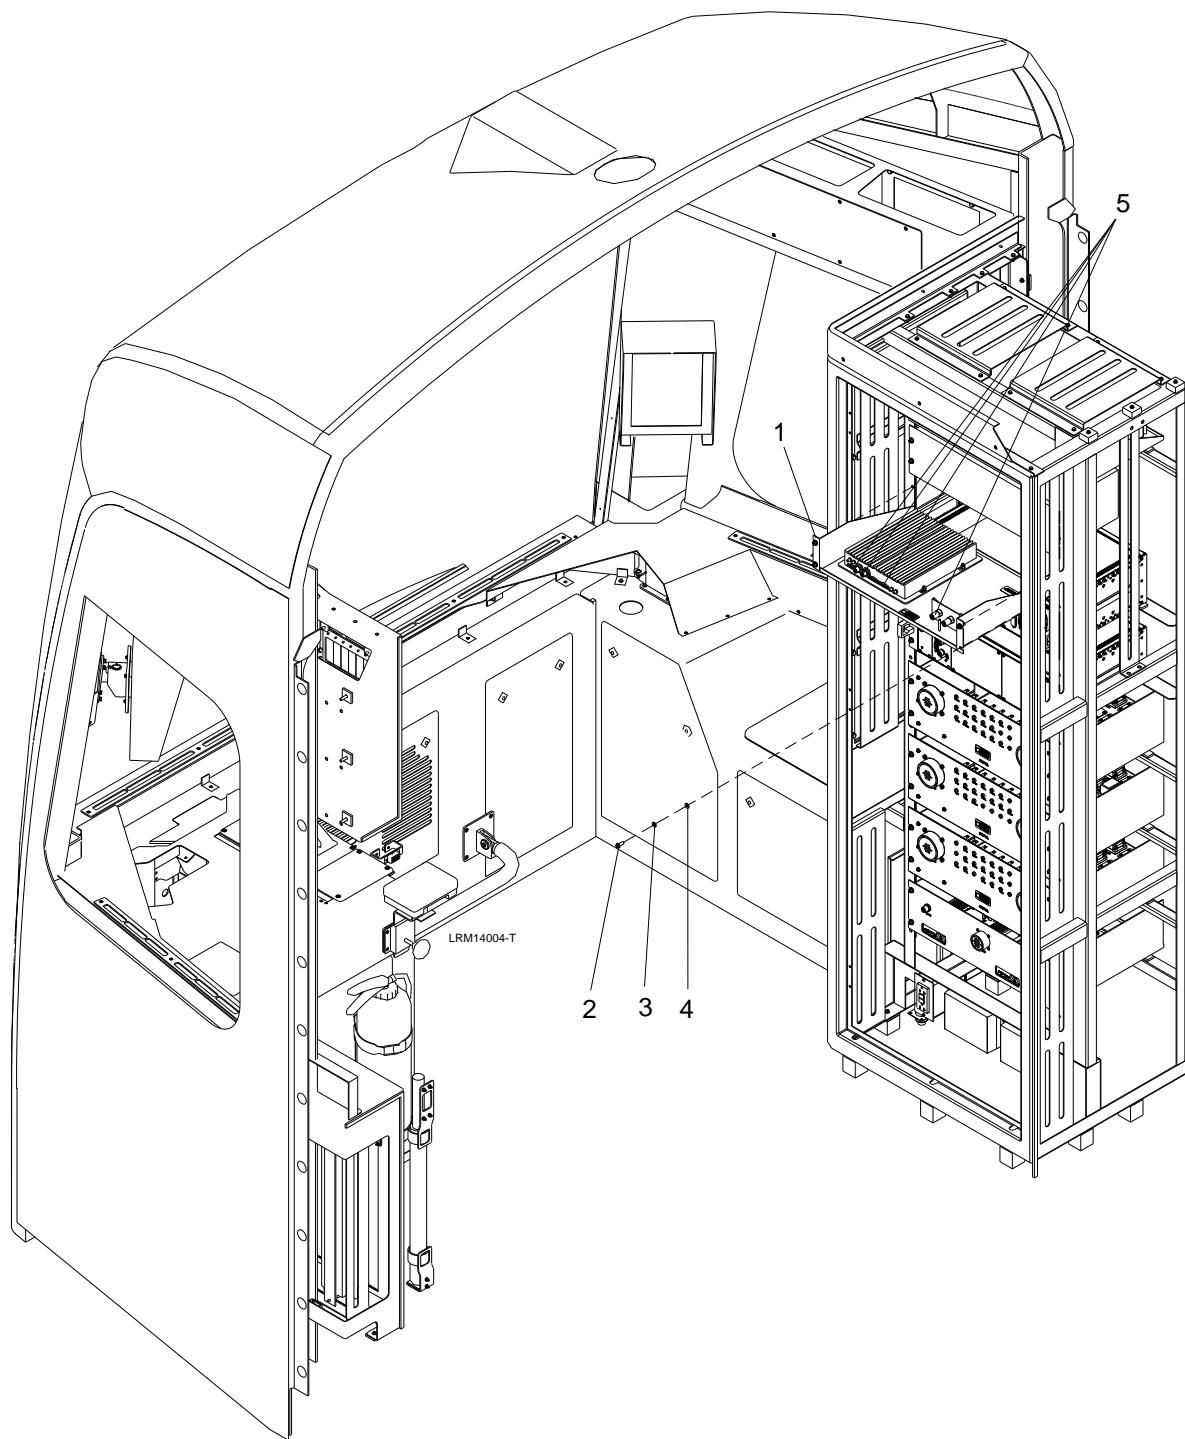

Figure 7-25: Communication Control Unit (CCU) Panel
2. Disconnect the electrical connectors (5) to the CCU (1). See Figure 7-25.
3. Remove the four M6 x 16 screws (2), M6 lock washers (3), and M6 plain washers (4).
4. Carefully remove the CCU (1).